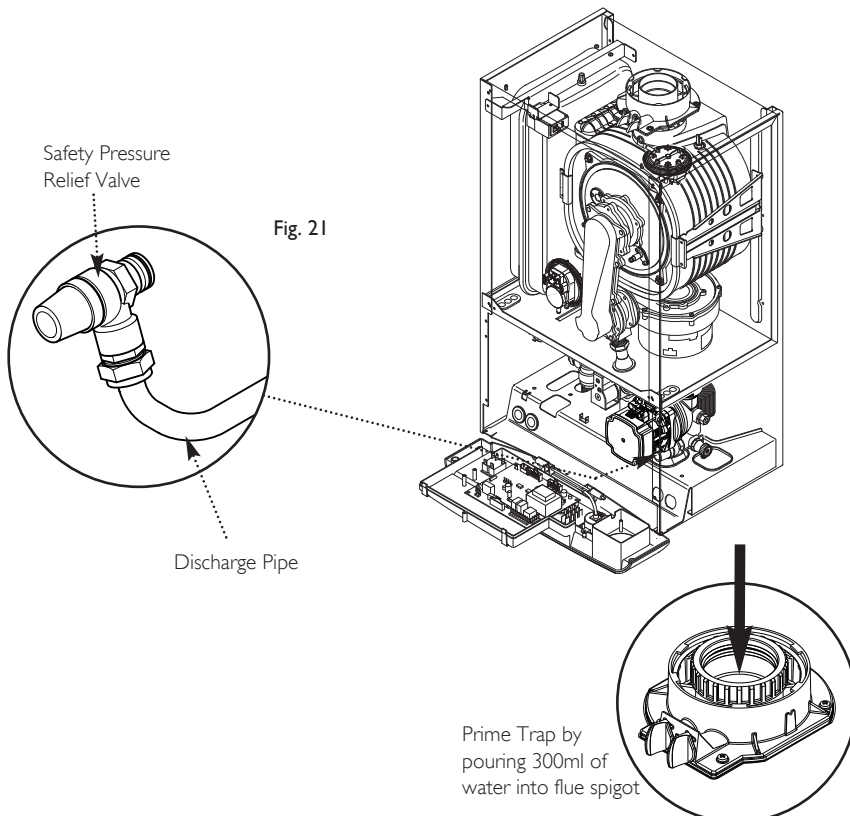

Fig. 21
9.6 Fitting the Safety Pressure Relief Discharge Pipe (Fig. 21)